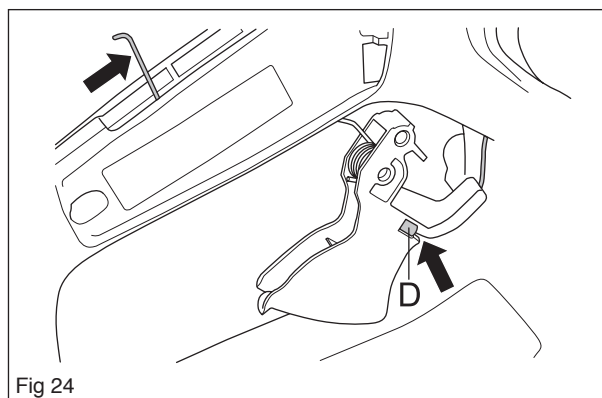

Fig 24
Lubricate the pin and joined surfaces with a light oil. Hook on the throttle cable (D). Slide in the throttle control and make sure the spring is fitted as outlined in figure 24.